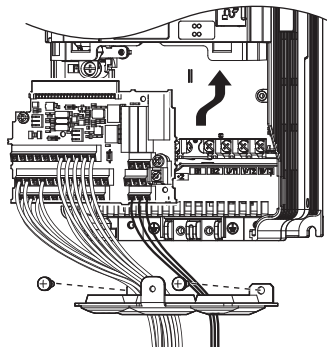

Figure 7.31 Drive Replacement: Installing the Control Terminal Board
- After wiring the main circuit, connect the terminal block to the drive as shown in Figure 7.31. Use the installation screw to fasten the terminal block into place.